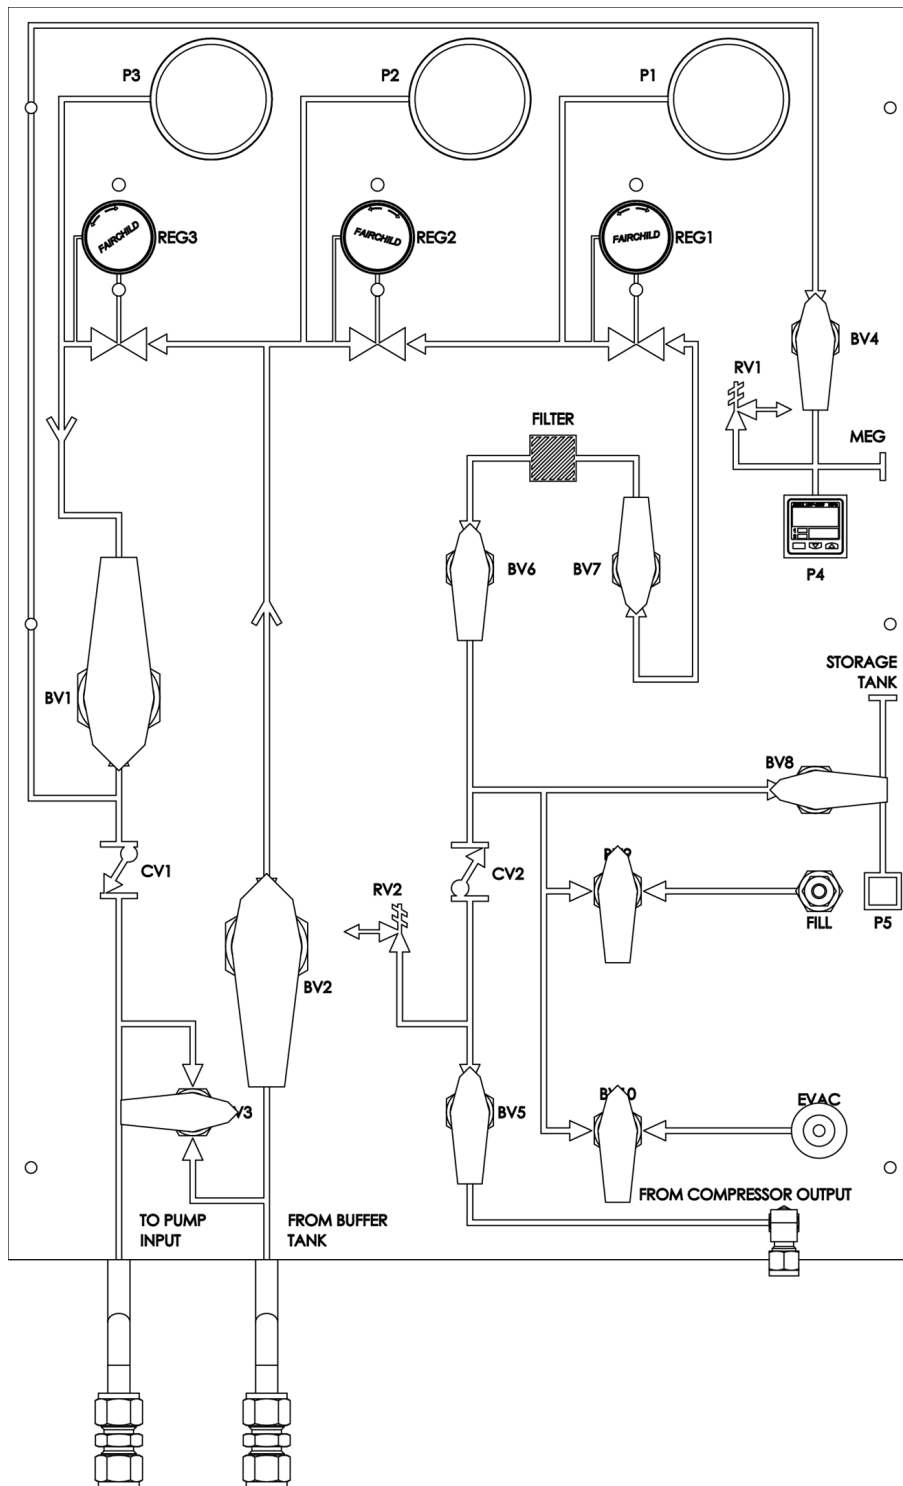

Figure 7.38 Layout of the pressure regulator panel during normal operation, with the buffer tank valves closed
Note: You are recommended to make sure that the valves on the pressure regulator panel are set as shown in figure 7.38. If the valves are set to any other positions, the storage pump or compressor can break, if they start unintentionally.
1. Make sure that the valves on the pressure regulator panel are set as shown figure 7.38.